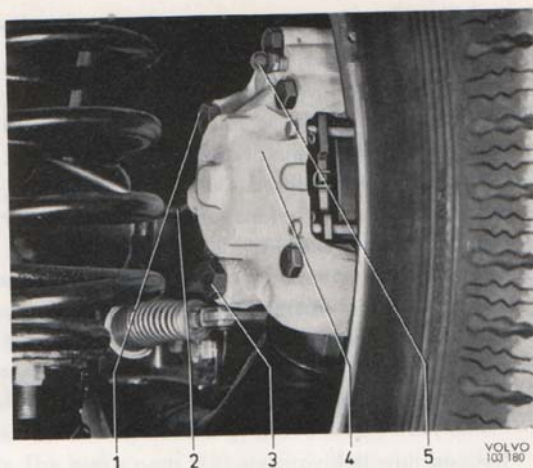
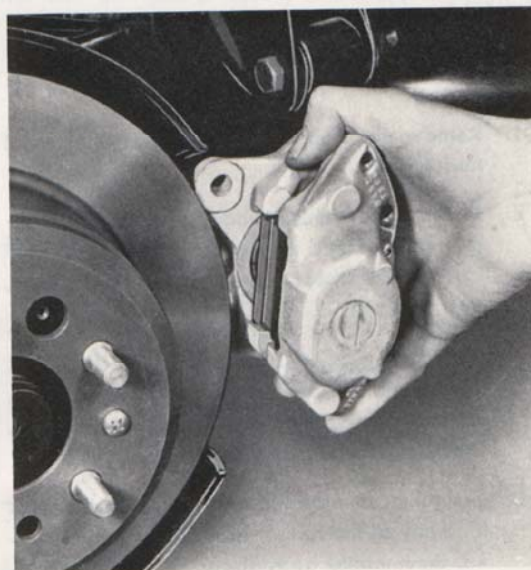

Fig. 5-7. Rear wheel brake unit removed
Fig. 5-8. Removing rear brake caliper
3. Disconnect the connection (2, Fig. 5-7) and fit the guard cover. Screw out the attaching bolts (1 and 3). Take off the brake caliper, see Fig. 5-8. Take care of any shims.
- Screw loose the brake line (2, Fig. 5-7) from the rear brake caliper and plug the connection. Brake fluid must not spill on to the disc or brake pads. The leakage can be reduced by temporarily plugging the vent-hole in the brake fluid container cover. Remove the attaching bolts (1 and 3). Lift out the caliper, see Fig. 5-8.